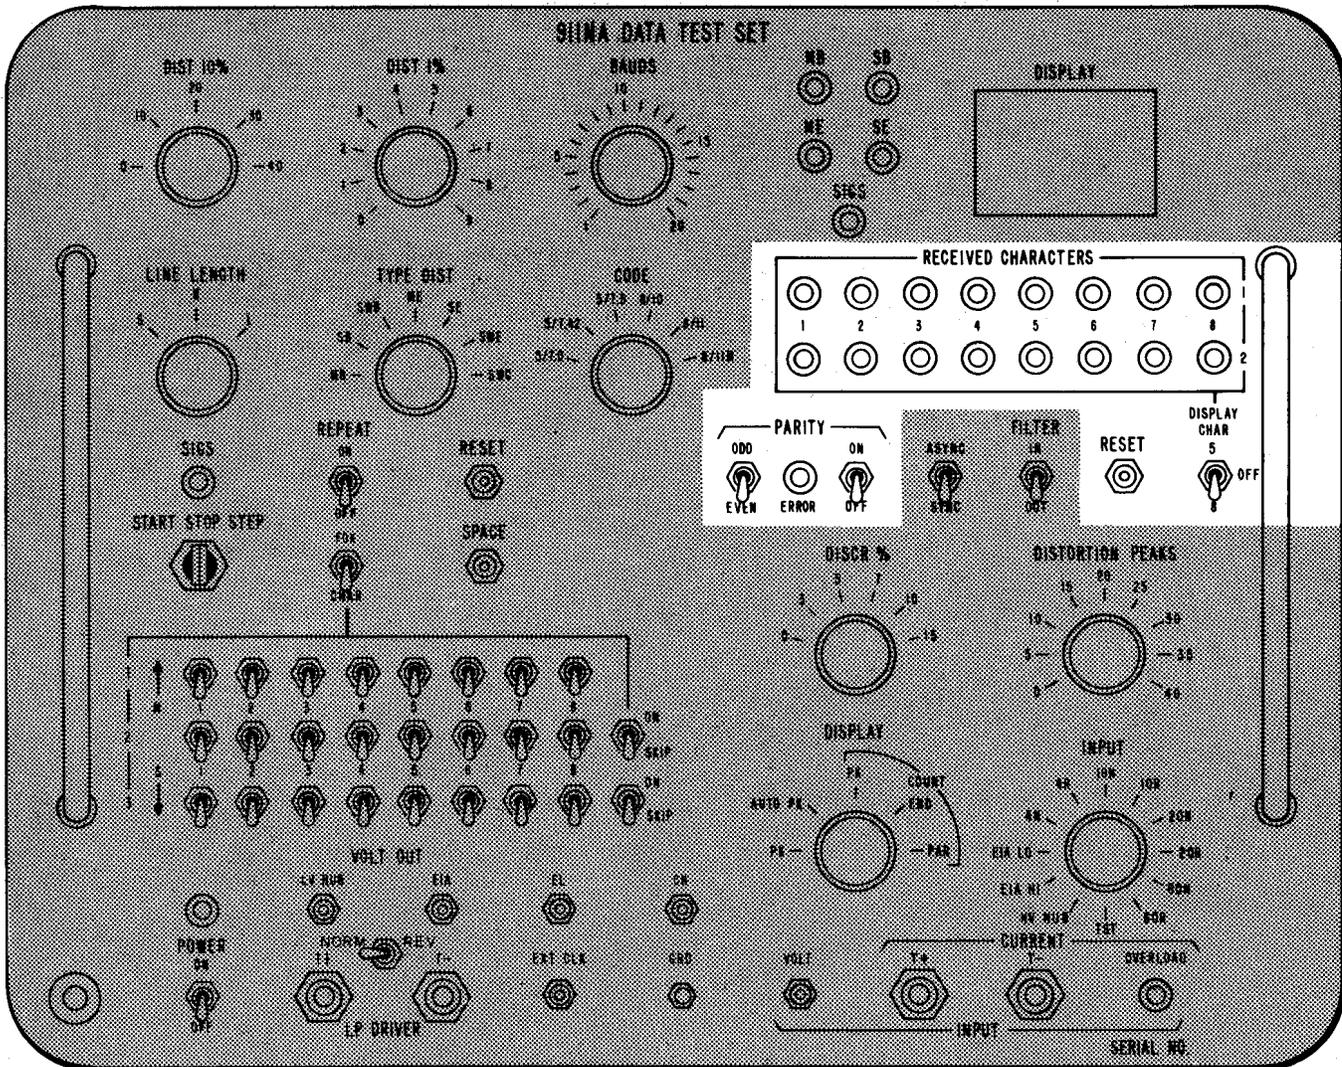

Fig. 17—Received Characters and Parity Displays
**3.38** Figure 17 shows the received characters and the parity error displays. Odd or even parity errors can be recognized by the DMS. When a parity error is received by the DMS while the